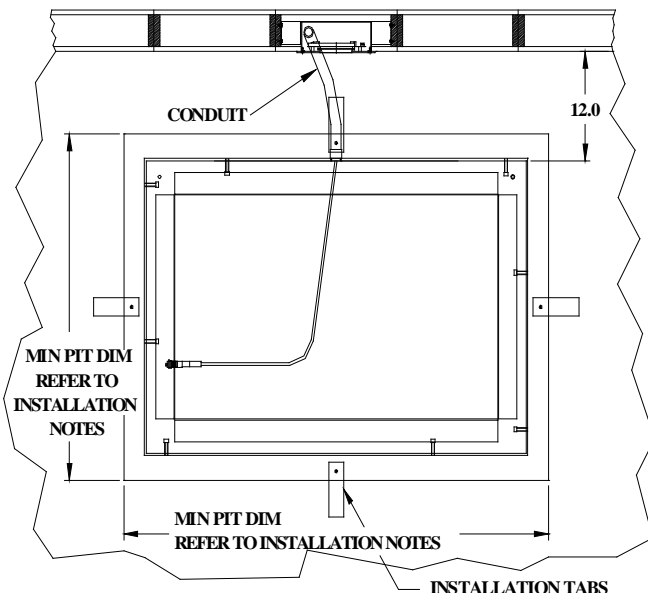

Figure 2: Conduit Placement and Installation Tabs
STEP 5: (Figure 2) Center the Scale Frame in the pit using the supplied installation tabs to suspend the frame in place (see “**Pit Area Installation Notes**”).